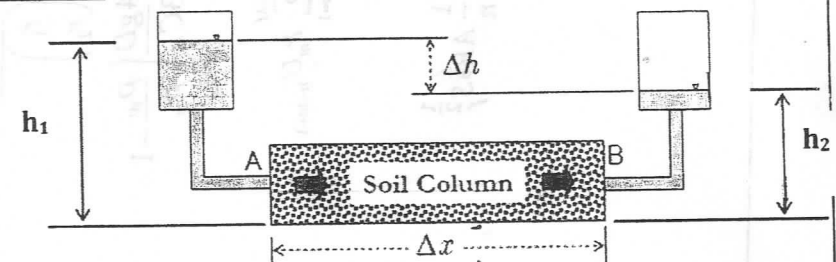

Figure 2
- E. Soil column (length = 18 cm) experiment shown in **figure 2** has $h_1=12$ cm and $h_2=9$ cm. If the hydraulic conductivity and cross-sectional area of the column are 1.88 m/day and 33.28 cm^2 , respectively. Calculate Darcy velocity and determine how long must it take for a chemical to move from one end to another if porosity is 0.33. (3 marks)